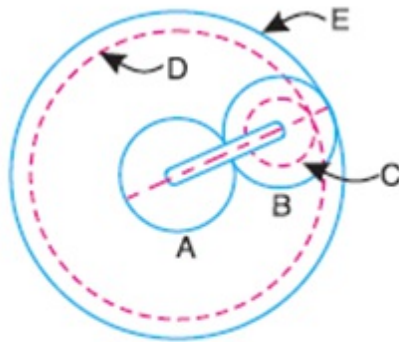

Fig. 7A : Epicyclic Gear Train.
- B) Elucidate on the positive drive cams. Cite an example of the same. (5)
- C) Illustrate the mechanism that allows intermittent rotary motion in only one direction while preventing motion in the opposite direction and enumerate the applications of this mechanism. (7)
- 5) Enumerate the step by step procedure of constructing the cam profile, with roller follower which has simple harmonic motion. (8)
- B) What is Kutzbach's criterion for degree of freedom of freedom of plane mechanisms? In what way is Grubler's criterion different from it? (8)
- C) In what way are the angular acceleration of the output link and the coupler found? (4)
- 6) Elaborate on the different types basic rotating unbalance masses with an aid of neat sketches. (8)
- B) What are the different types of constrained motion? Elaborate on each type with a suitable example. (6)
- C) Derive an expression for perfect steering and in detail explain the Ackerman steering gear mechanism. (6)
- 7) Fig. 7A. Shows an epicyclic gear train. Pinion A has 15 teeth and is rigidly fixed to the motor shaft. The wheel B has 20 teeth and gears with A and also with the annular fixed wheel E. Pinion C has 15 teeth and is integral with B (B, C being a compound gear wheel). Gear C meshes with annular wheel D, which is keyed to the machine shaft. The arm rotates about the same shaft on which A is fixed and carries the compound wheel B, C. If the motor runs at 1000 RPM, find the speed of the machine shaft. Find the torque exerted on the machine shaft, if the motor develops a torque of 100 N-m. (10)